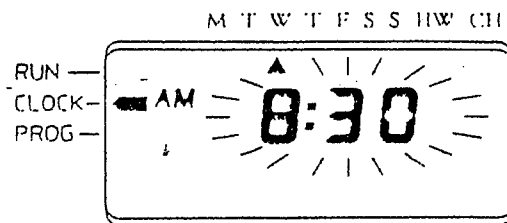

Fig. 5.
- (b) Press the ENTER button and the TIME OF DAY will now flash (Fig. 5).